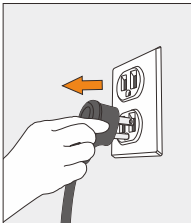

Figure 22
**External:** Disconnect power supply cord (Figure 22), use only mild dishwashing liquid or cleaning products and a soft cloth for cleaning the exterior surfaces (Figure 23 and Figure 24). **DO NOT** USE bleach or abrasive cleaners. Use a vacuum cleaner to remove dirt and lint from the condenser (Figure 25). The unit should be cleaned every 3 months, except where fingers touch the temperature selectors, which can be wiped often with hygienic wipes or mild cleaning products.